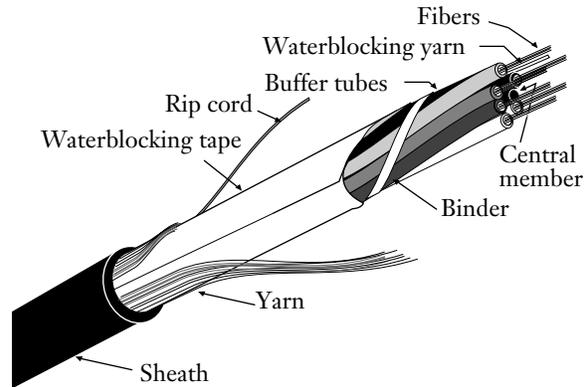

Figure 1
1.2 FREEDM cable is a rugged fiber optic cable featuring buffer tubes and a dielectric central member protected by a UV-resistant sheath, water-blocking tape, and yarn (Figure 1). The cable is OFNR rated.